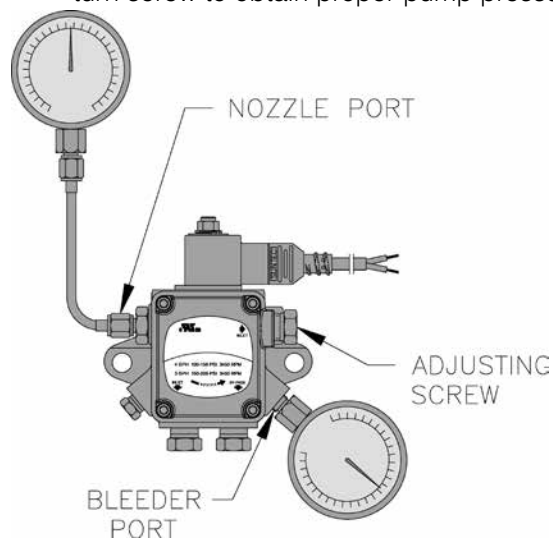

Figure 26: Adjusting Fuel Pump Pressure
- a. When checking a fuel unit's operating pressure, a reliable pressure gauge may be installed in either the bleeder port or the nozzle port. For Beckett and Carlin burners refer to Figure 26. Refer to Figure 7E for Riello burner.